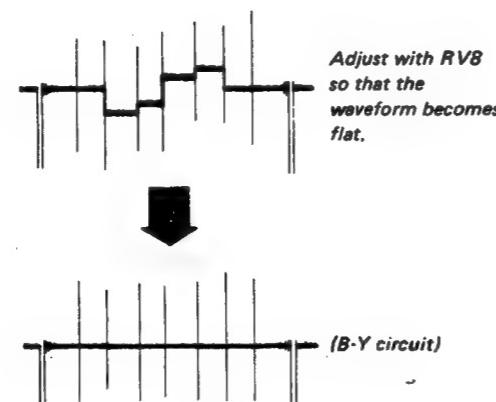

Fig. 11-2
4. Set the oscilloscope sensitivity to 20mV/DIV, and adjust RV8 on the BD or BM board so that the output waveform is flat. (See Fig. 11-2.)
9. Adjust RV7 on the BD board so that the output waveform is flat. (See Fig. 11-2.)